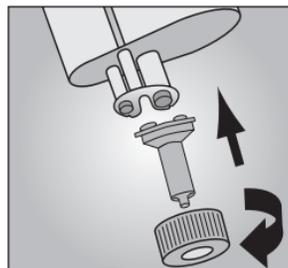

fig. 2
3. Attach the yellow dynamic mixing tip to the end of the cartridge. Fix the mixing tip in place by applying and turning the yellow rotating ring clockwise (fig. 2). Note: use only DenMat dynamic mixing tips and rotating rings for optimum performance.